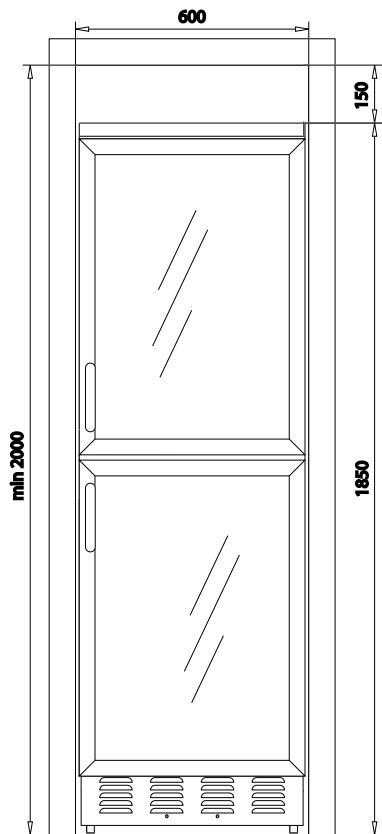

Fig. 2A
1. There must be space above the appliance in order to make the cooling system work satisfactorily. - Fig. 2a, page 6.